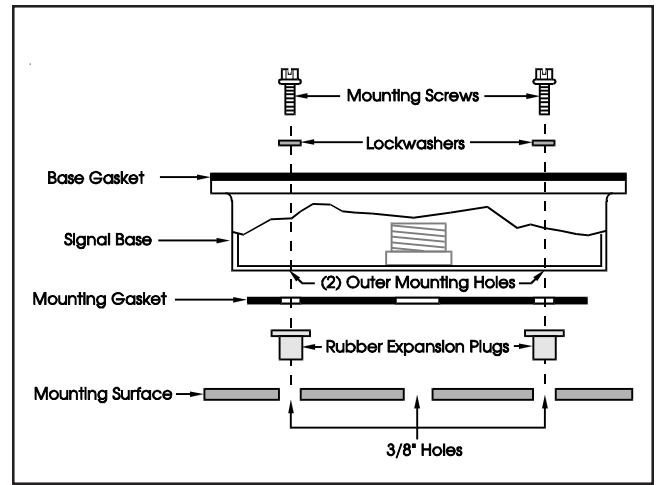

Figure 2. Direct Surface Mounting
- b. Refer to Figure 2 before continuing the mounting procedure. Then place the gasket provided in the hardware kit on the mounting surface, and mark the center of the three holes in the gasket on the surface. Remove the gasket and drill a 3/8" (9.5 mm) hole at each of the marked positions.
- c. Install the two rubber expansion plugs provided in the hardware kit into the two outer holes in the mounting surface as indicated in Figure 2.
- e. Align the holes in the gasket with the holes in the base. Insert the two screws with lockwashers provided in the hardware kit through the mounting holes inside the base and align the screws with the rubber expansion plugs as shown in Figure 2. Press the base firmly against the mounting surface and tighten the screws. Now proceed to step 3 for wiring connections.